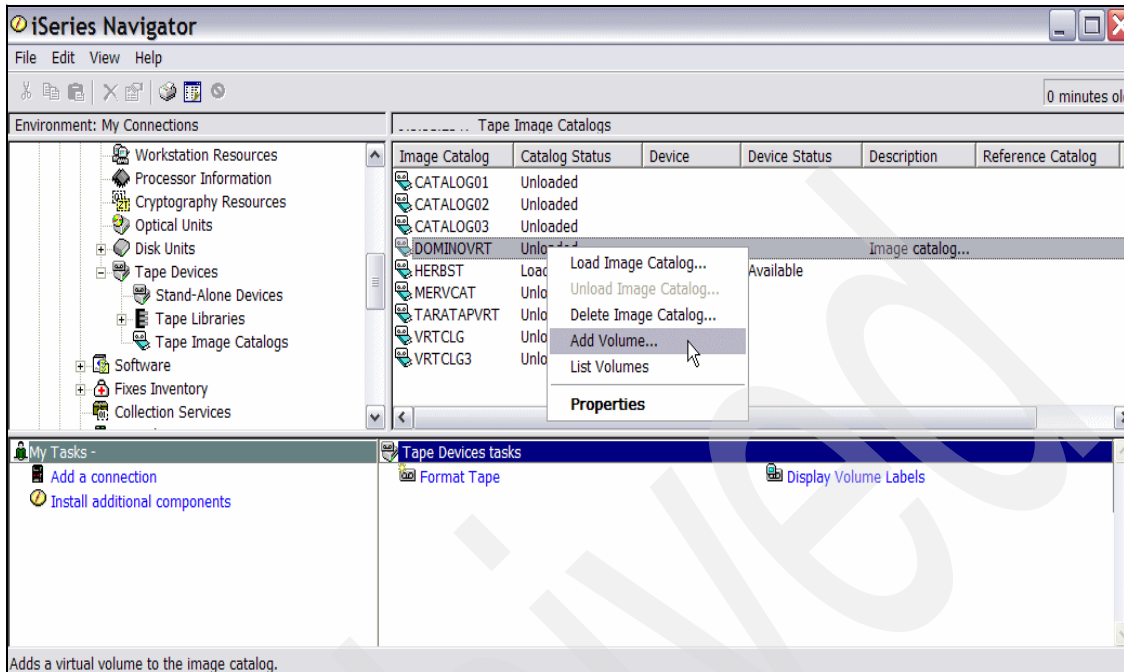

Figure 5-3 Domino with BRMS virtual tape, add volumes to image catalog
4. Right-click the image catalog and select **Add volume**, as shown in Figure 5-3 on page 192.